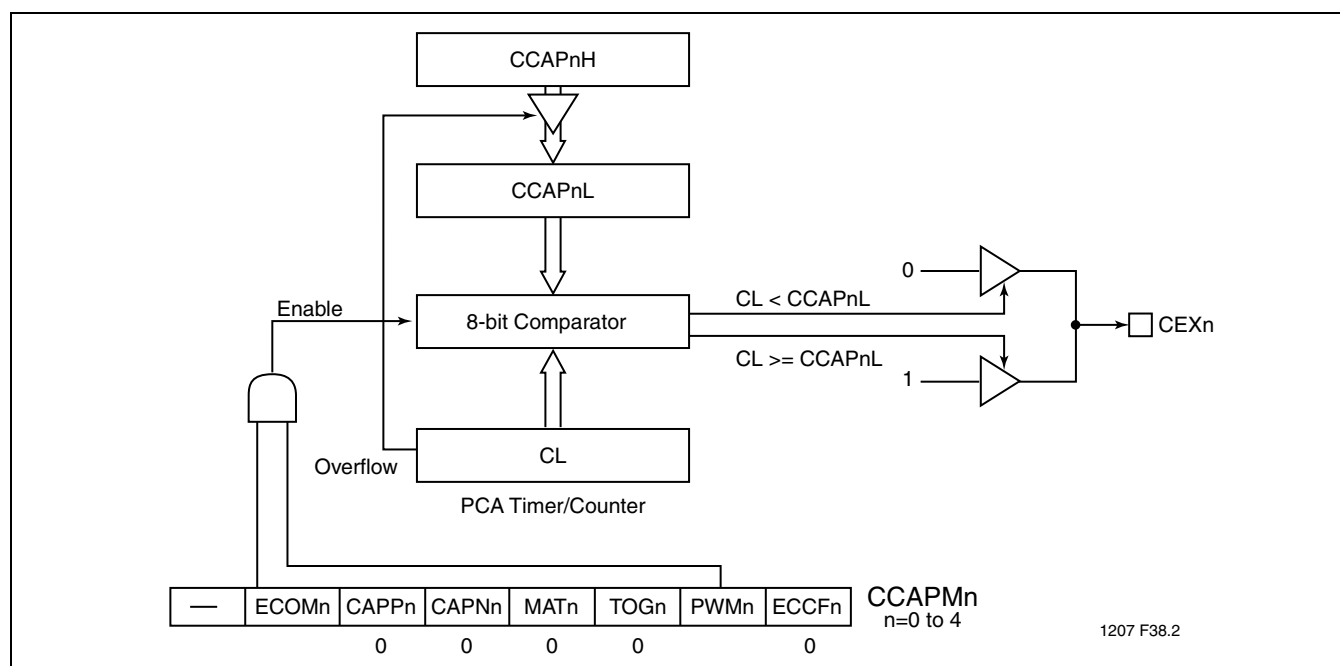

FIGURE 8-5: PCA PULSE WIDTH MODULATOR MODE
The Pulse Width Modulator (PWM) mode is used to generate 8-bit PWMs by comparing the low byte of the PCA timer (CL) with the low byte of the compare register (CCAPnL). When  $CL < CCAPnL$  the output is low. When  $CL \geq CCAPnL$  the output is high. To activate this mode, the user must set the PWM and ECOM bits in the module's CCAPMn SFR. (See Figure 8-5 and Table 8-7)